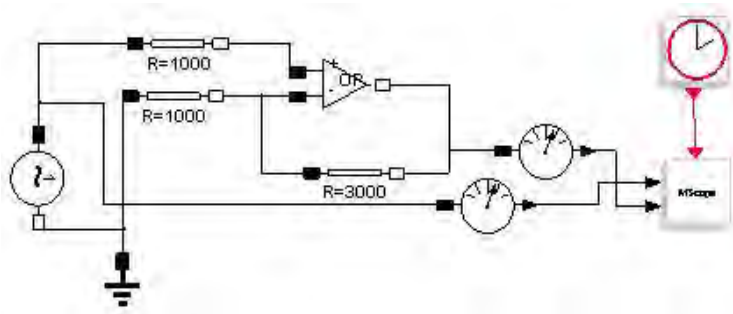
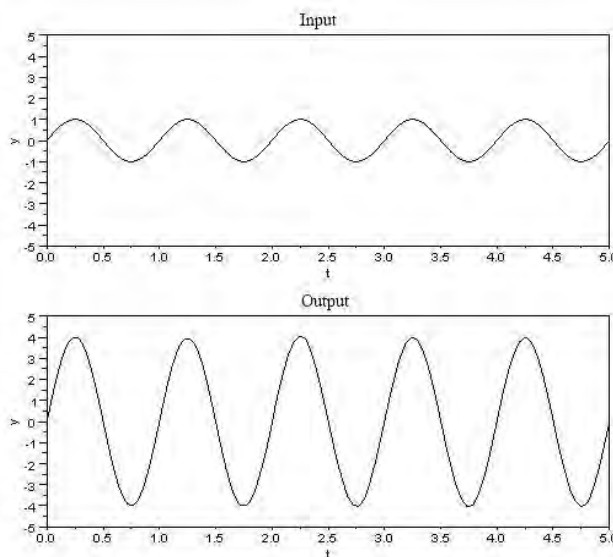

Figure 7: Simulation of a non-inverting amp using Scicos/Modelica
Figure 8: Input and output waveforms from simulation
Ex. 2: A non-inverting amplifier can be constructed in Scicos/Modelica as shown in Figure 7. To compare with Ex.1, we choose $R_S = 1 \text{ K}\Omega$ and $R_F = 3 \text{ K}\Omega$. From (23), the resulting gain equals 4. The value of R_T has no effect on the gain. In this example we simply choose $R_T = R_S$. The simulation result is shown in Figure 8. The output from the scope indicates amplification of 4, conforming to the computation from (23). What is different from the inverting amp case in Ex. 1 is now the input and output waveform are in phase.